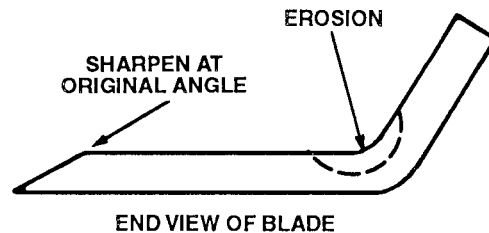

Figure 22
7. Using a file, sharpen the cutting edge at both ends of the blade (Fig. 22).
Check the cutter blade every time rider is tipped on end. If the blade bolt holding blade is loose, tighten it to 45-60 ft-lb (61-81 Nm). If blade or saw (Fig. 22) at end of blade is worn, eroded, or cracked, replace it. Replace the blade if it is bent. Always use genuine TORO replacement blades to ensure safety and best performance. NEVER USE WILL-FIT REPLACEMENT BLADES.